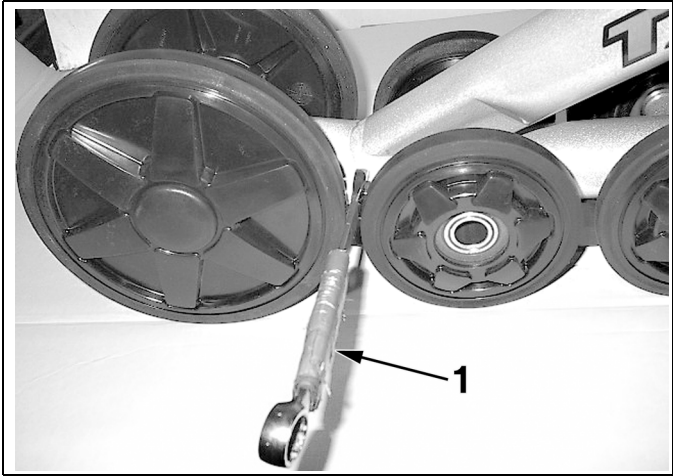

Figure 12
Adjust tension the rubber track by turning the adjusting nut (item 1 in Figure 12) of the track tensioner. Adjust track tension.